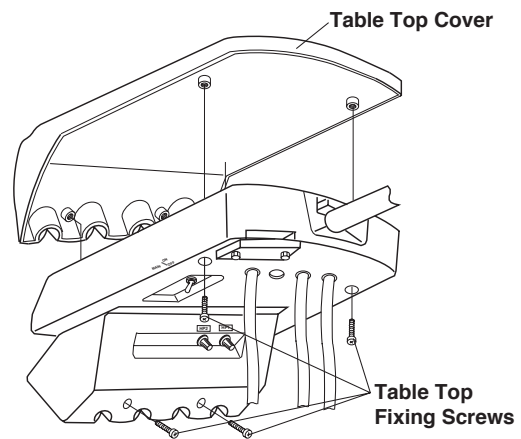

Fig. 3-5 Removing Table Top Cover
(3) Removing Table Top (Fig.3-5)